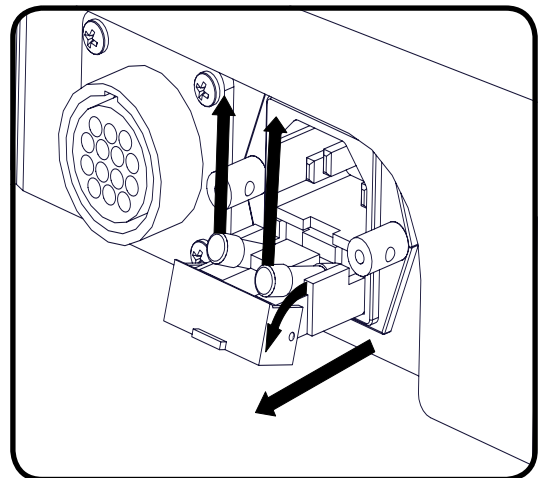

Figure 1
4. Insert new fuse(s) with same type of fuse removed in step 3 (See figure 1 below). See "SPECIFICATIONS" on page 24 for fuse type.